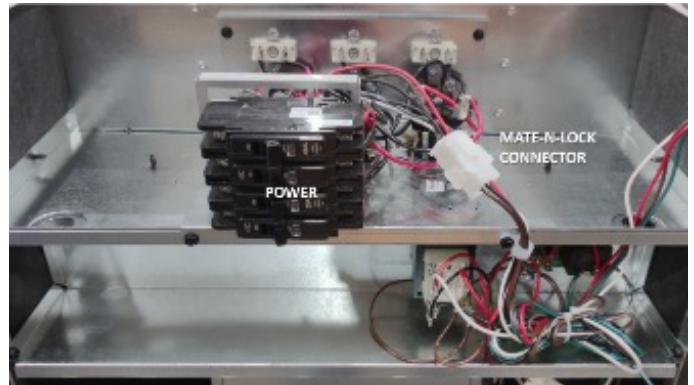
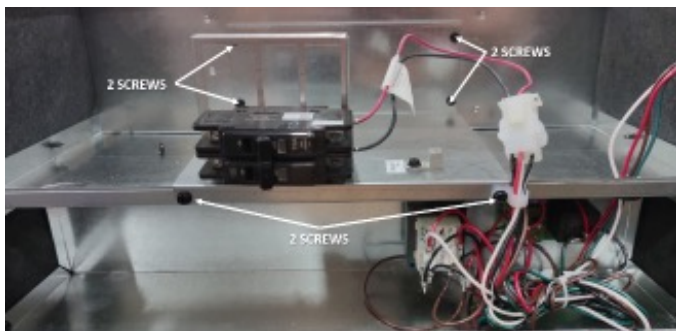

Figure 3
Figure 2
- STEP 4:** Unplug the Mate-n-Lock connector (FIG. 3) and Remove block-off plate or existing heater kit from air handler by removing 6 screws (See FIG. 2)
- STEP 6:** Insert power leads into the circuit breaker lugs or terminal block and tighten (FIG. 3)
- STEP 7:** Connect ground wire to ground lug (FIG. 3)